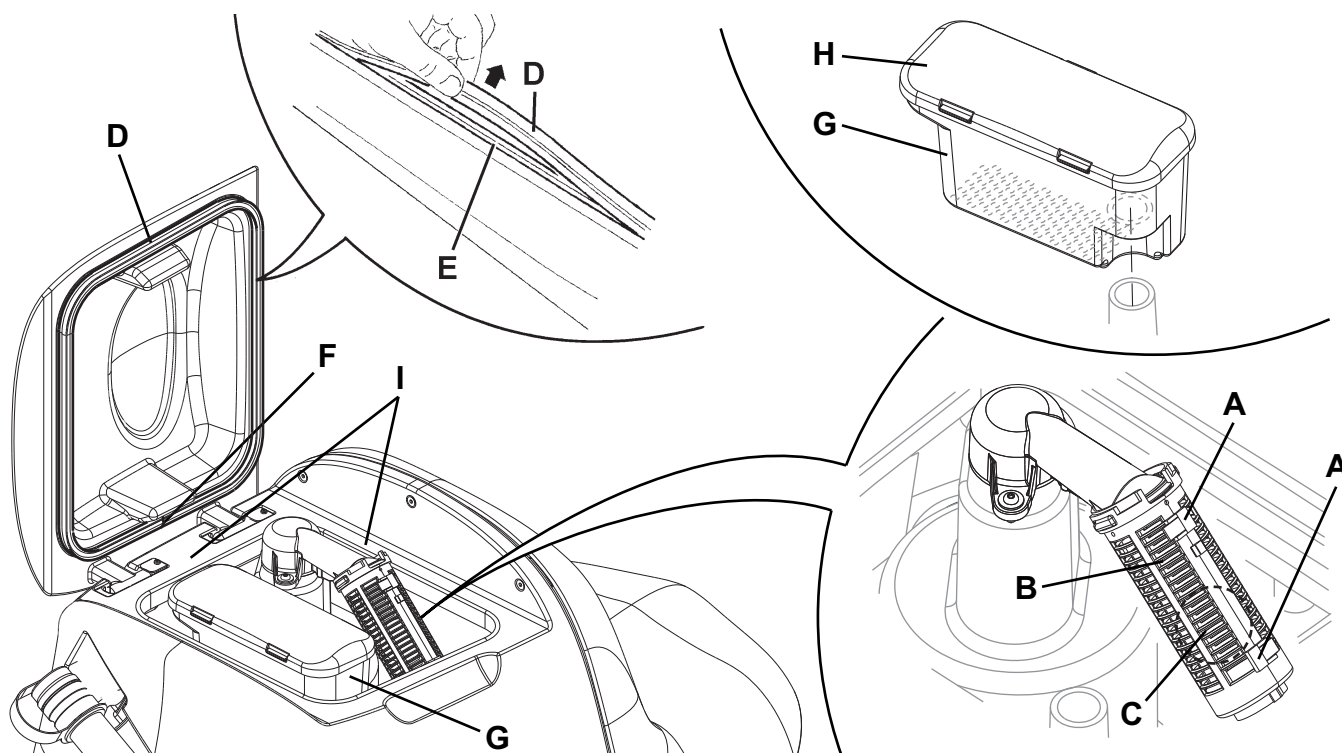

Figure 8
2. Turn the ignition key (58) to "0".
3. On both sides of the machine, unscrew the knob (A, Fig. 8) and remove the side skirt assemblies (B).
5. Check that the skirt lower edge (C):
- has the inner corner (D) that is not worn;